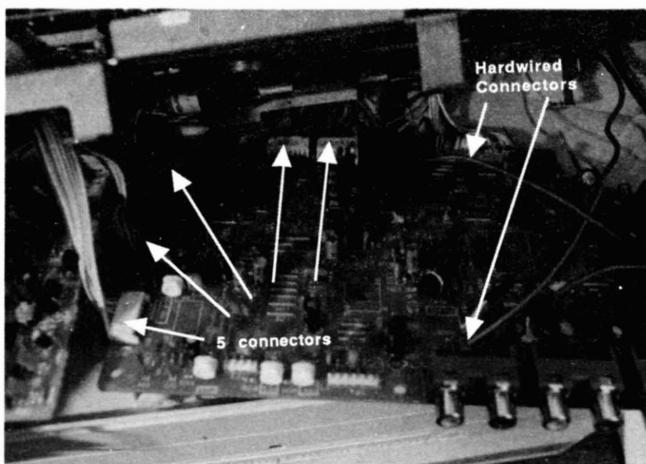

Figure 11
- D. Disconnect wires from 5 connectors. (Figure 11).
- A. Re-connect 5 connectors and any hardwired connections (Figure 11).